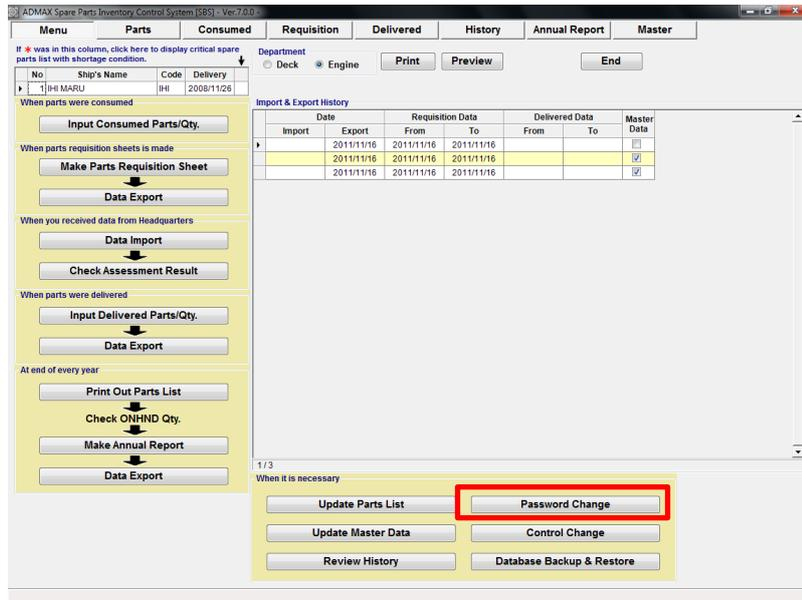

Fig 14.1 Menu
1. Select [Password Change] button on the "Menu Screen"(Fig.14-1).